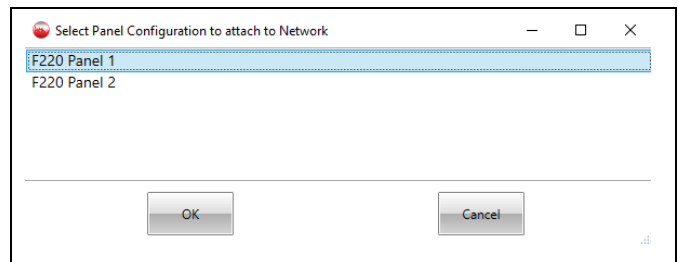

Figure 20-35: Assigning Panel 1 to Node 1
- In the FireUtils Component Tree, right click on “Node 1” and in the menu select “Assign Existing Panel Configuration” (Figure 20-35)